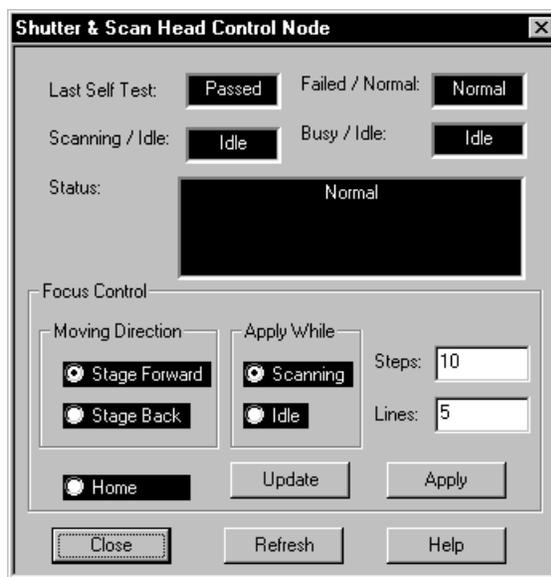

Figure 7-14. Shutter and Scan Head Control Node.
**Shutter and Scan Head Control Node**—This icon brings up the Shutter and Scan Head Control Node window (figure 7-14), which displays the status of the SCAN board and controls the power focus.